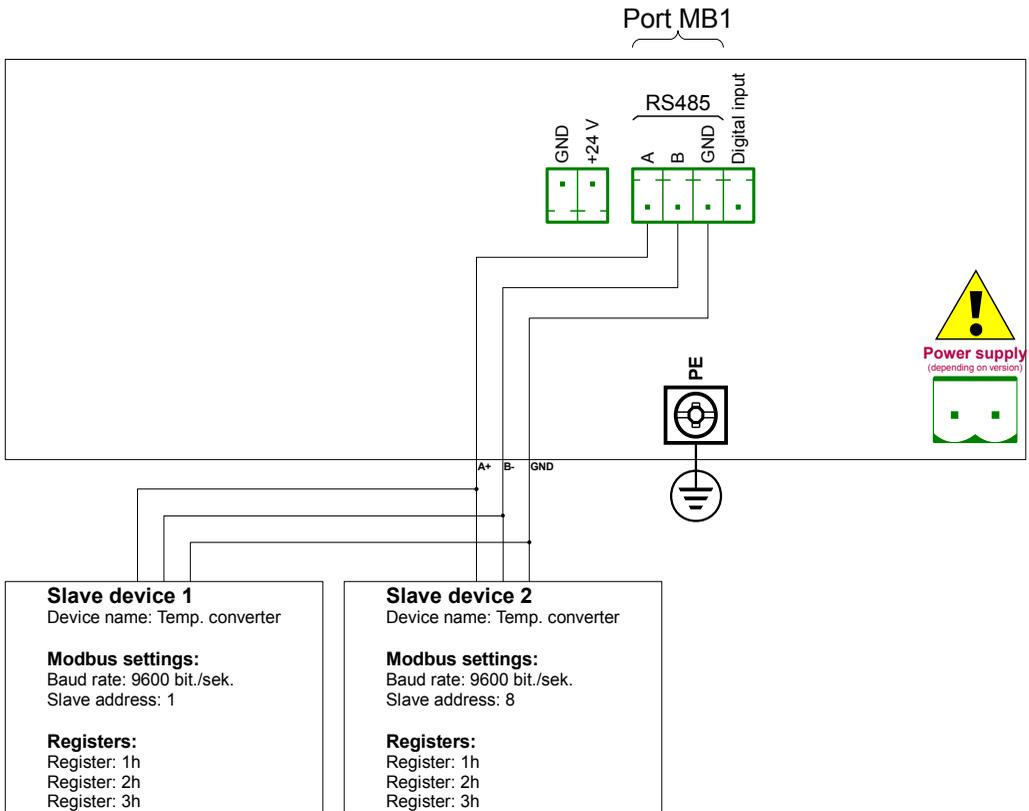

Fig. 7.150. Connection diagram for the Modbus port MB1
First configure the device, then connect the SLAVE device to the MultiCon (in accordance with **Fig. 7.150**).
- using the arrows in the upper right corner choose **Port number: 1 (MB1)** in accordance with **Fig. 7.150**),